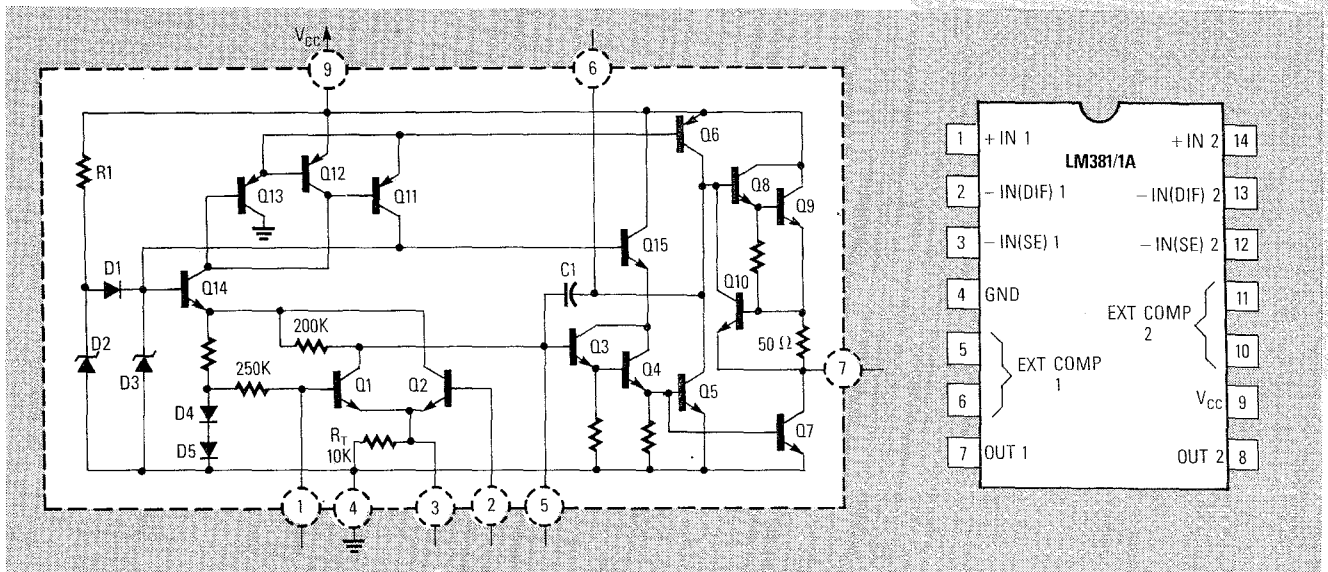
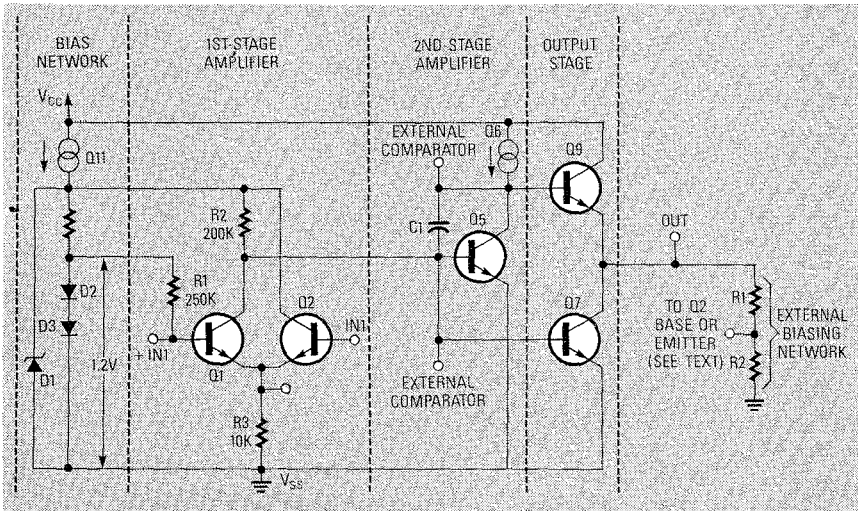

FIG. 2—THE LM381/1A DUAL LOW-NOISE PREAMP.
FIG. 5—EQUIVALENT CIRCUIT OF THE LM381/1A amplifier.
- The LM381 and LM381A, shown in Fig. 2, allow external noise figure optimization and compensation (nar-
LM381/1A shown in Fig. 2. It has a first stage (Q1 and Q2), second stage (Q3-Q6), output stage (Q7-Q10), and bias network (Q11-Q15); Fig. 5 shows a simplified equivalent. The first stage is biased at 1.2 volts via R1, and can be operated either differentially or single-ended, although differential operation generates 41% more noise.